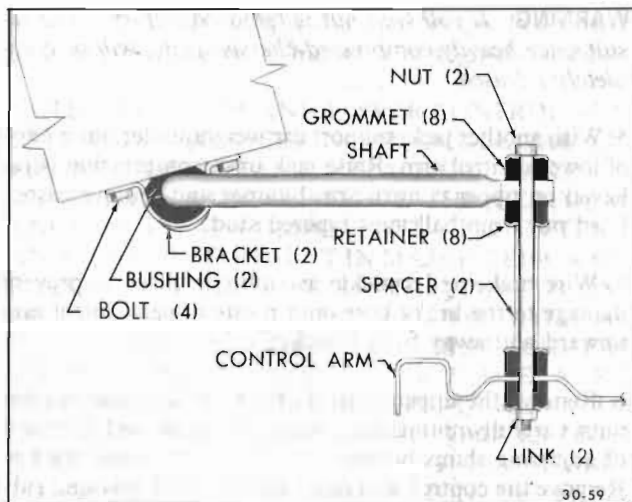

Figure 30-38 - Stabilizer Link Installation
5. Install stabilizer link to control arm and torque nut to 12 lb.ft. See Figure 30-38.